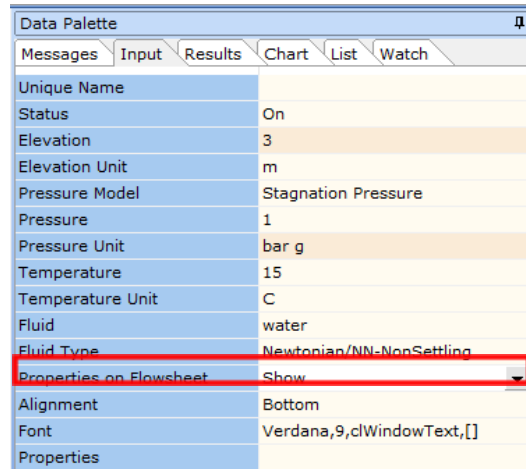

Figure 34: Show Properties on Flowsheet.
40. Now let us show the properties of the boundaries. Left mouse-click on the inlet boundary (node 1) and whilst holding the SHIFT key, left mouse-click on the outlet boundary (node 2), and from the *Input Inspector*, change the field titled *Properties on Flowsheet* from *Hide* to *Show* (Figure 34).